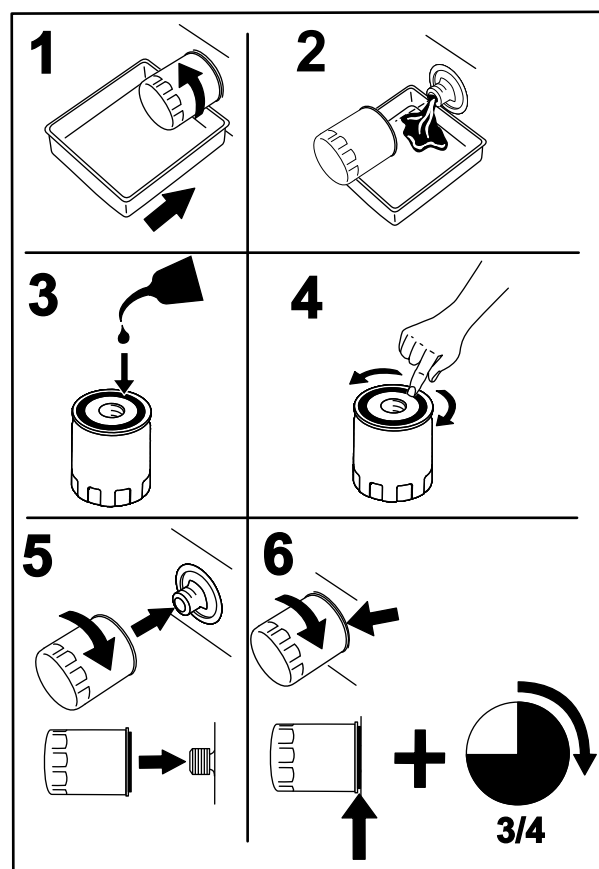

Figure 41
2. Change the engine oil filter (Figure 41).